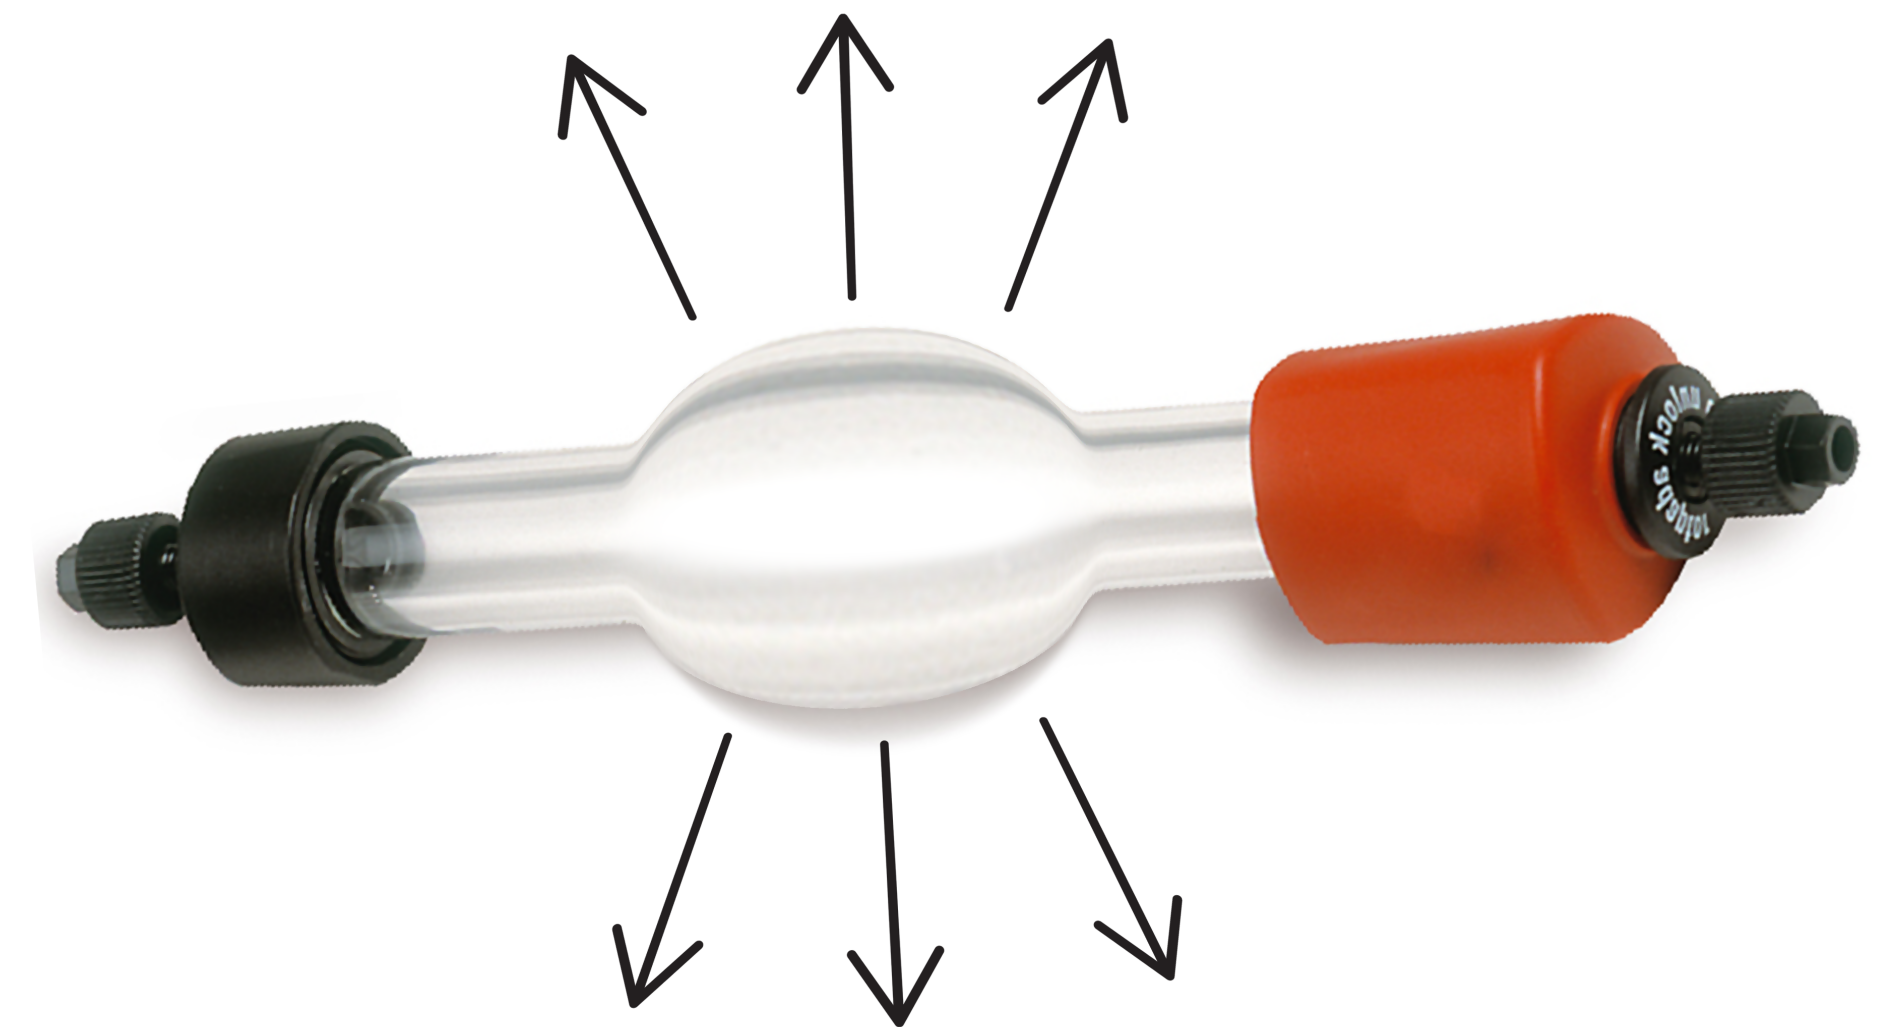

Fig A4.1. The column hardware pressure limit is the maximum pressure the column hardware can withstand without damage.
1. **Column hardware pressure:** The column hardware pressure limit is the maximum pressure the hardware can withstand without being damaged (Fig A4.1). This value is fixed for each column type. The column hardware pressure limit for each column type is included in the column instructions and in the UNICORN column list, in ÄKTA systems.